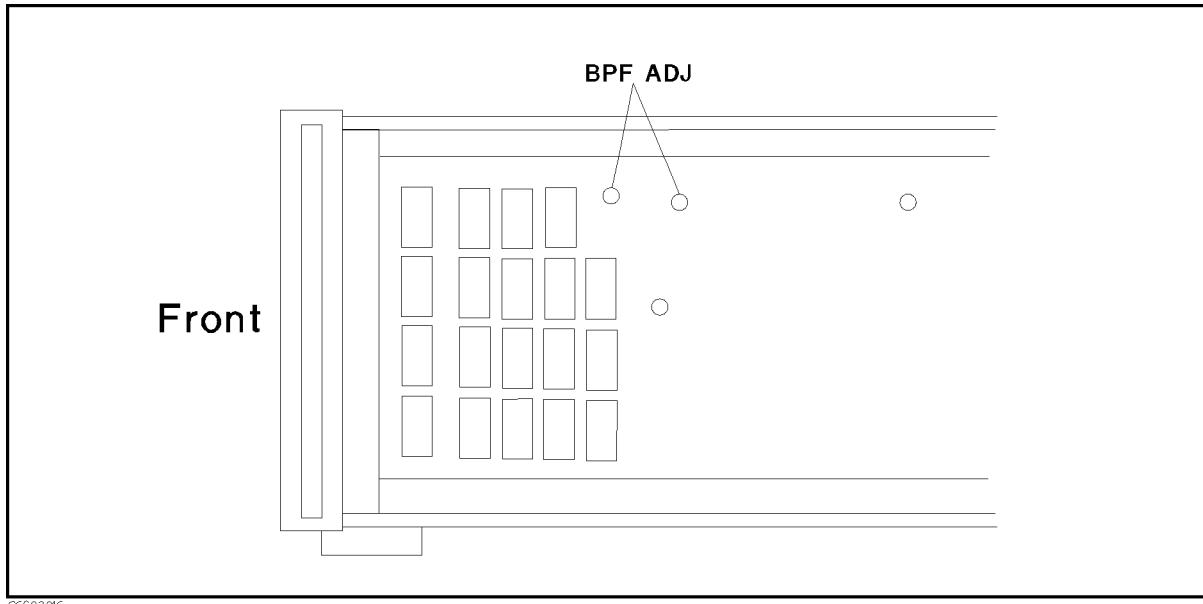

Figure 3-18. Band Pass Filter Adjustment Location
6. Adjust “BPF ADJ 1” to maximize the trace. Then adjust “BPF ADJ 2” to maximize the trace and press **CONT** to complete the adjustment. The adjustment location is shown in Figure 3-18. (The interaction of “BPF ADJ1” and “BPF ADJ 2” is negligible.)